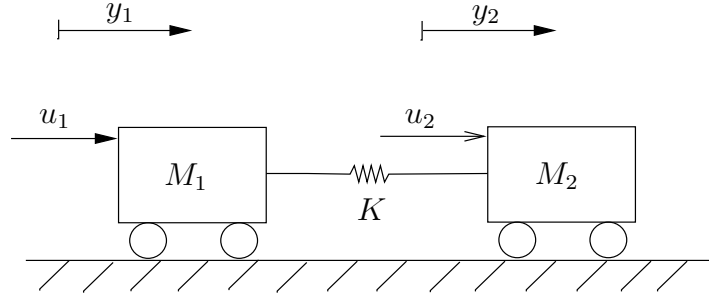

Figure 2.18: A 2-input, 2-output system.
9. *Example.* An example where $m = 2, n = 4, p = 2$ is shown in Figure 2.18. For practice you should get the state equation, by taking